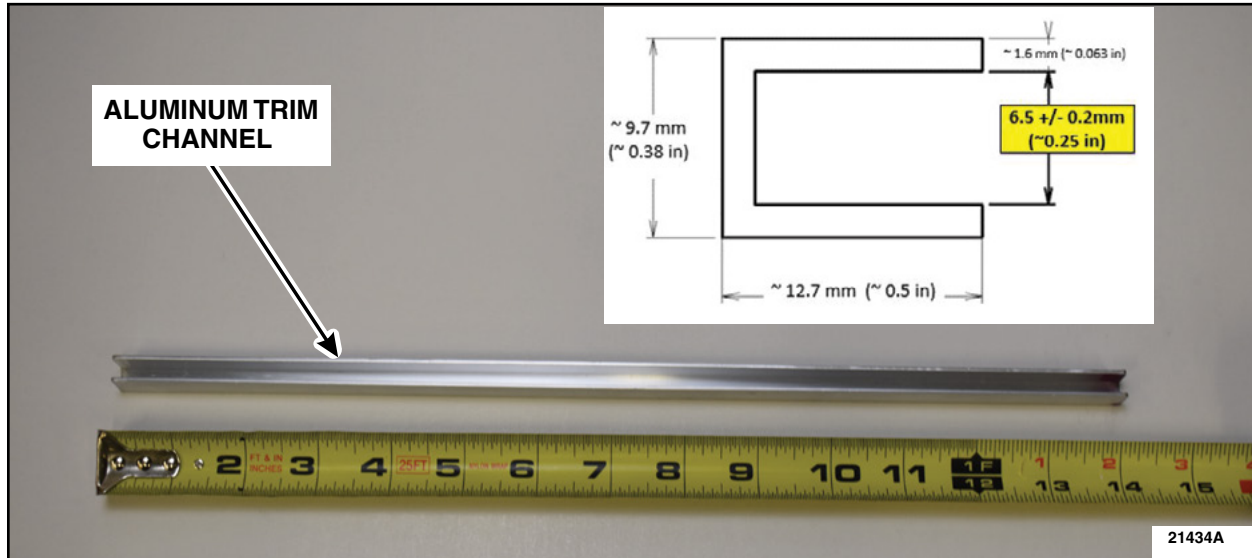

FIGURE 1
1. Locally obtain a section of 1/4 inch (6.35 mm) aluminum trim channel and cut to 14 inches (355.5 mm) in length. The Aluminum trim channel can be found at your local hardware store in the "Metal Pieces and Welding Supplies" aisle. See Figure 1.